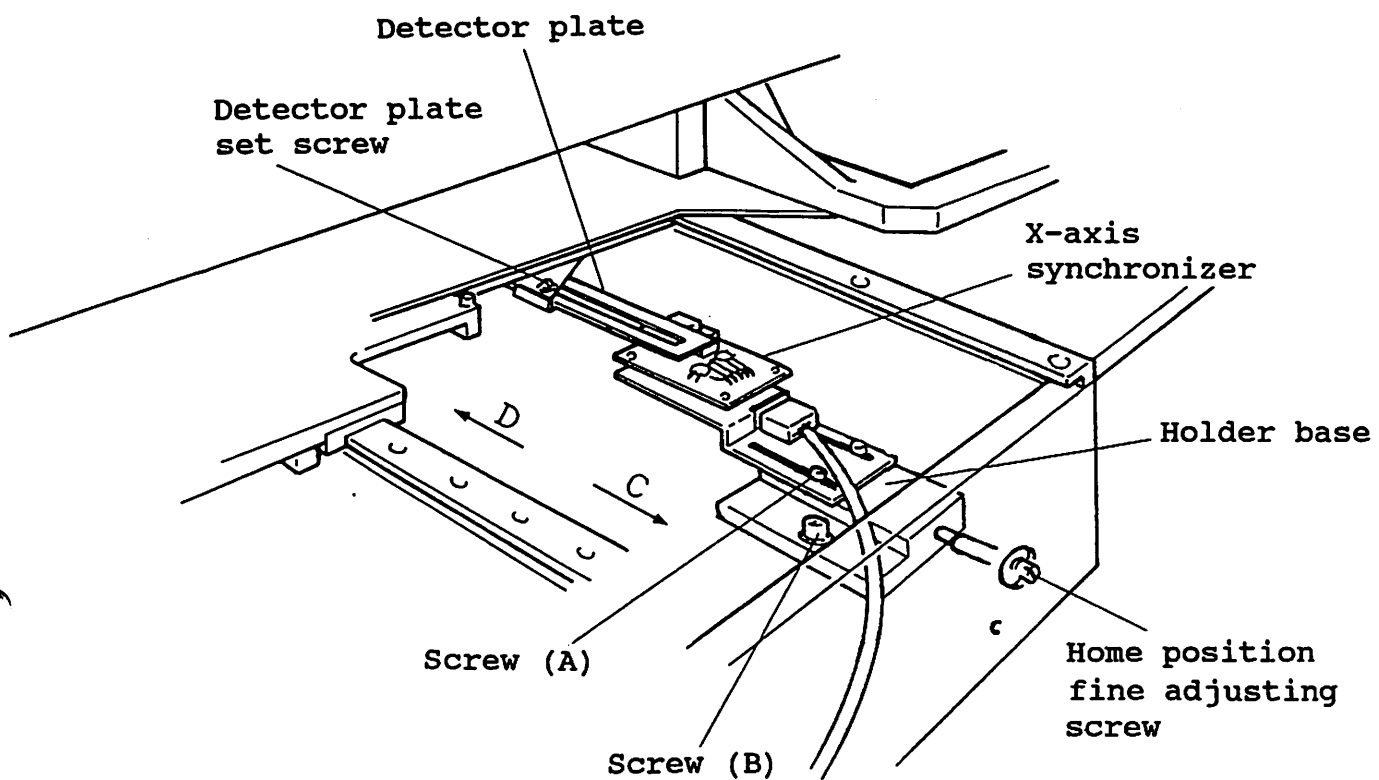

Fig. 9.17
- (1) Remove the X-Y cover (top) clamping screws and the left and right X-Y covers, and set to the status shown in Fig. 9.17.
- (2) The home position can be moved to the right by moving the X-axis synchronizer in the direction of arrow C and the detector plate in the direction of the arrow.